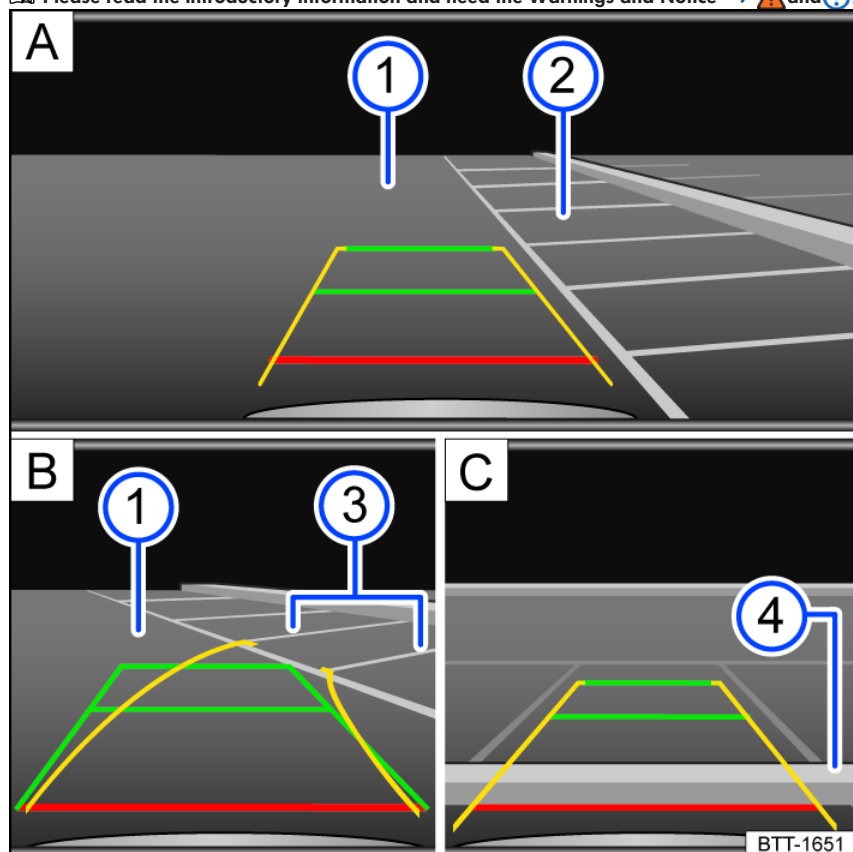

Fig. 138 Screen display in the Infotainment system: parking with the Rear View Camera system.
Key for *fig. 138*:
- Position your vehicle in front of the parking space *fig. 138* **A** **2**.
- Steer so that the yellow lines lead into the parking space. The green and yellow lines must align with the side boundary lines *fig. 138* **B** **3**.
- Stop when the red line reaches the rear boundary *fig. 138* **C** **4**.